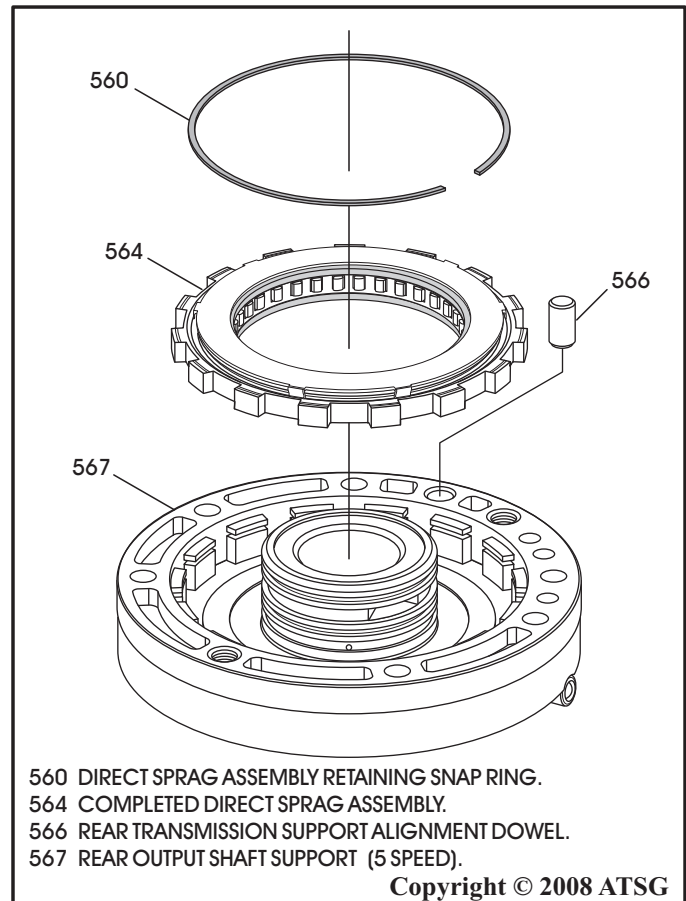

Figure 151
9. Install the completed direct sprag assembly, as shown in Figure 151, into the output shaft support with ID groove facing up.
10. Install the direct sprag assembly retaining snap ring, as shown in Figure 151.
11. Install the alignment dowel, if removed, into output shaft support, as shown in Figure 151.